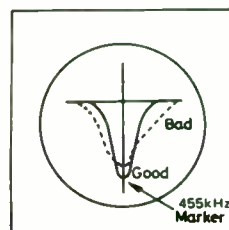

Fig. 2
- (d) Align each of IFT (T203, T204, T205, T206) to obtain the maximum and symmetrical wave form on the scope (Fig. 2), however, the peak point of the wave form may not exactly be the same as the marker point, which is dependent on the center frequency of the ceramic filter in the I.F. amplifier circuit.